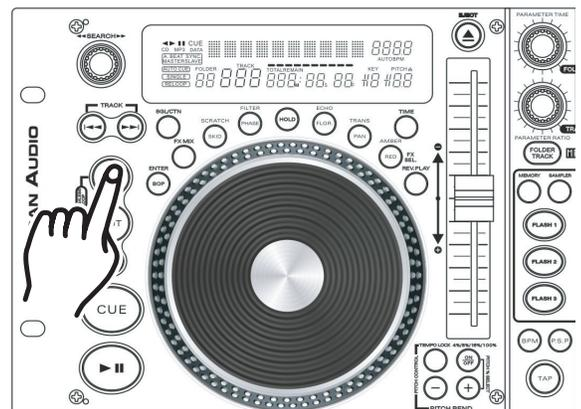

Figure 31
- 2) Press the *IN BUTTON (33)* (Figure 31) at the point you want your BOP to take place.